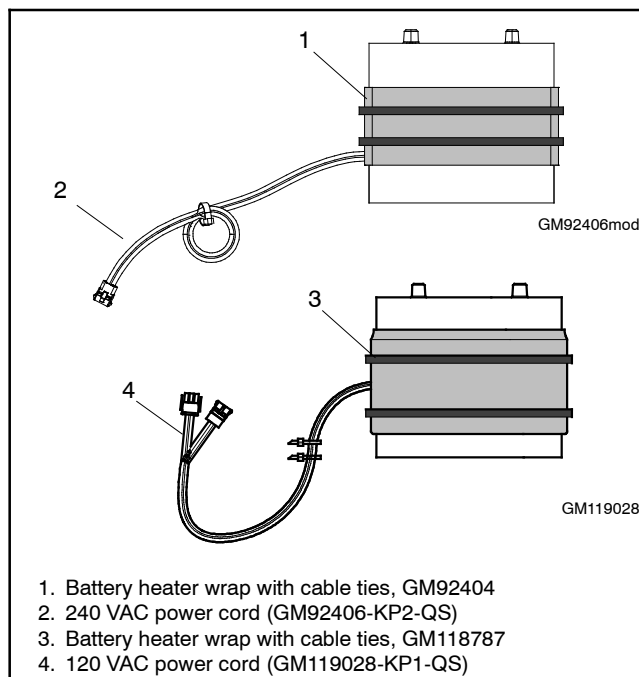
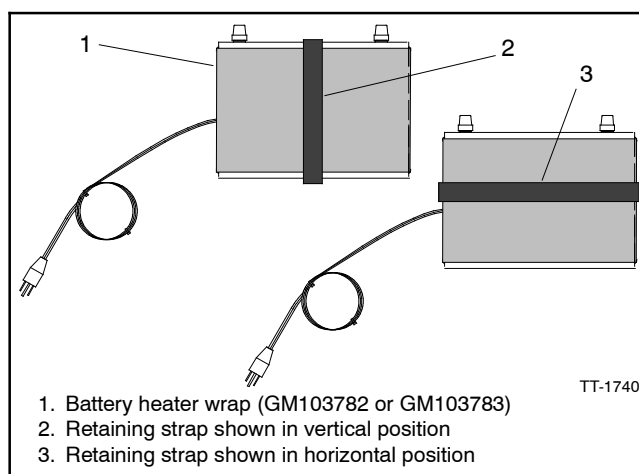
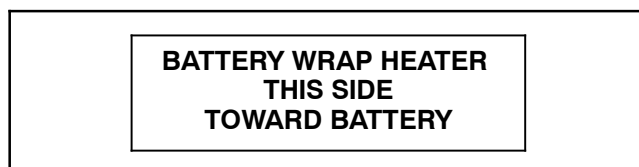

Figure 2 Heater GM92404 (240 volt heater) or GM118787
Figure 3 Heater GM103782 or GM103783
Figure 4 Label (if equipped)
6. Wrap the battery heater GM92404, GM103782, GM103783, or GM118787 around the battery. See Figure 2 or Figure 3. If the heater includes the label shown in Figure 4, wrap the heater with the labeled side contacting the battery. Secure the heater with the long cable ties or retaining strap provided with the kit.